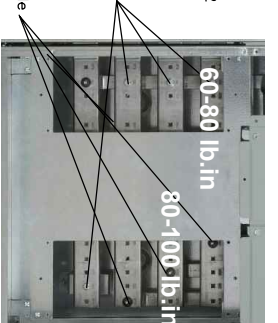

Figure 8
- d) Take one of the bus bar, with one (1) of each: carriage bolt, Belleville & nut, screw 1/4-20, lock washer, flat washer. Insert bar through red insulator (A in fig.2) and screw them to vertical bus bars (Fig.8). Letter A punched on horizontal bar should align vertical phase A bar.